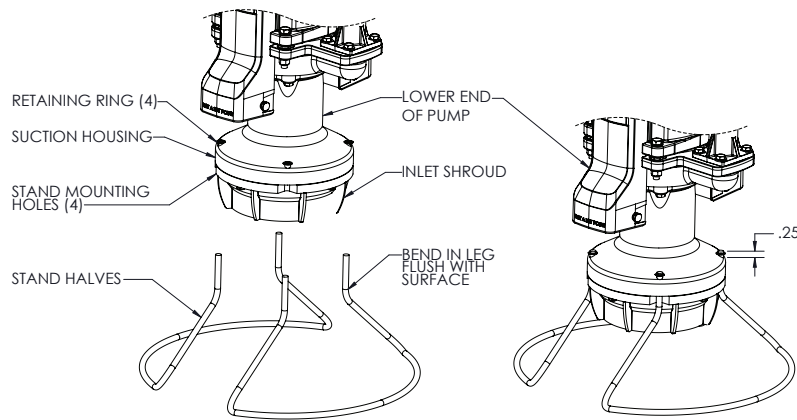

Figure 3
9. STAND ASSEMBLY (Fig. 3): Temporarily rest the grinder pump on its side. Using a block of wood or similar object, prop up the lower pump end to allow installation of the pump stand. Align the two legs of each pump stand half with two of the holes in the pump lower end. Push the stand legs into the pump lower end. Using a mallet, ensure that the stand legs bottom into the mounting holes. Repeat for the other stand half. Turn the pump upright on the installed stand. Install the four retaining rings (included with installation instructions; Fig. 3).